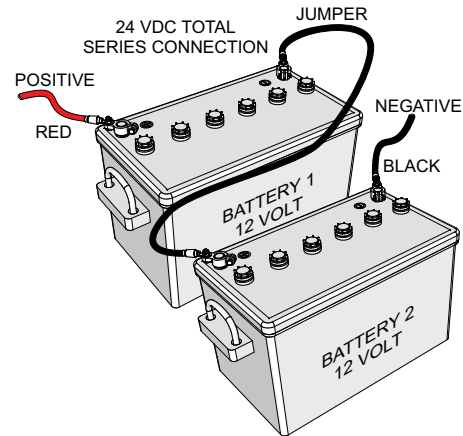

Figure 3. Battery Series Connections
**ALWAYS** be sure the battery cables (Figure 3) are properly connected to the battery terminals as shown below. The batteries are connected in series.